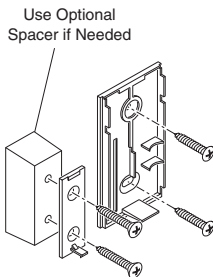

Figure 5
- **Screw Mounting:** Remove back of case by pushing in tab on bottom with a small screwdriver (see Figure 2). *Note:* Remove material in screw holes (if needed) before mounting with screws. Attach sensor back cover to wall using two short screws (see Figure 5). Snap sensor onto back cover.